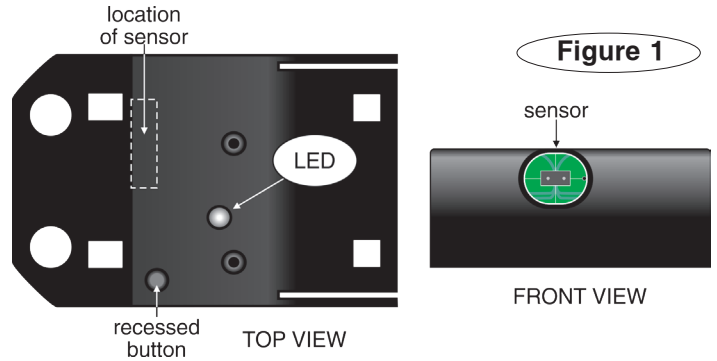

Figure 1
2. The universal brake light switch is to be installed on the brake pedal arm with the sensor aimed toward the front of the vehicle. Refer to Figures 1 and 2. Find an unobtrusive point high on the brake pedal arm where the switch will not present an obstruction to the driver, or interfere with the operation of the vehicle in any way.
Note: The most noticeable difference between the motorhome monitor and the towed vehicle transmitter (Figure 1) is the wires extending from them. The transmitter has four colored wires; the monitor has one black wire.